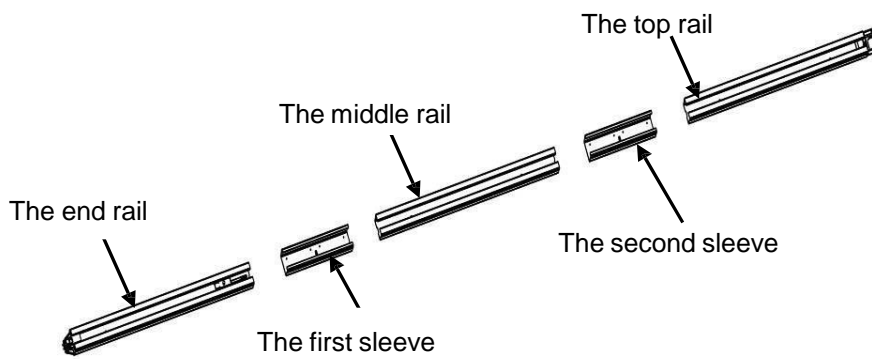

Fig. 8
2. As per Fig.8, slide the 2nd sleeve to the other end of middle rail & slide the top rail into the 2nd sleeve.